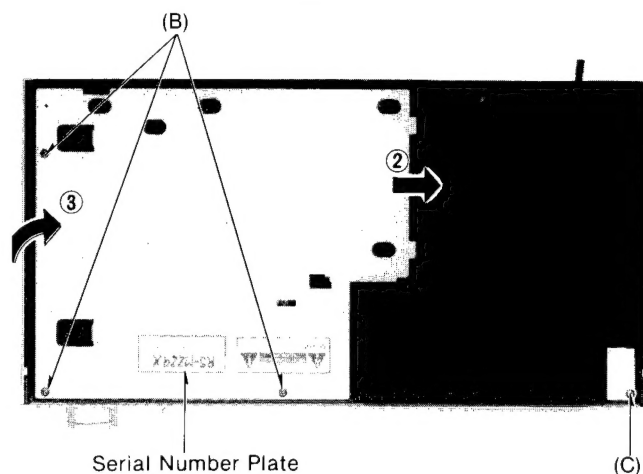

Fig. 2
- The serial number plate of this product is attached to the bottom cover. (Shown in fig. 2.)
<p>A Head position adjustment</p> <p>Condition:</p> <ul style="list-style-type: none"> • Playback and pause mode <p>(The head adjusting plate is provided to adjust the tape touch of the head in cue or review mode.)</p> <ol style="list-style-type: none"> 1. Press the playback button and pause button. 2. Measure the space between the pressure roller and the capstan. <p>Standard value: 0.5±0.3mm</p> <ol style="list-style-type: none"> 3. If the measured value is not within the standard value, untighten screw (A) and slide the head adjusting plate in the direction of arrow (B) for adjustment. 	<p>Fig. 2</p>